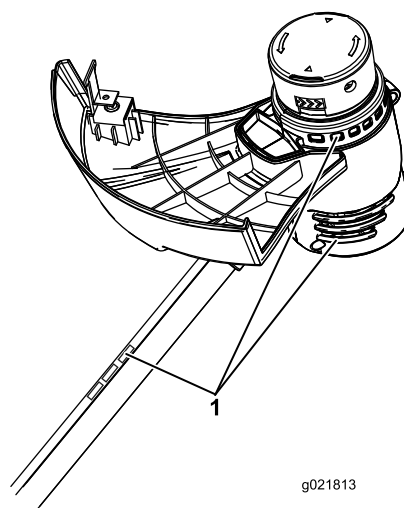

Figure 16
5. Brush debris away from the air vents on the motor housing and shaft to prevent the motor from overheating (Figure 16).